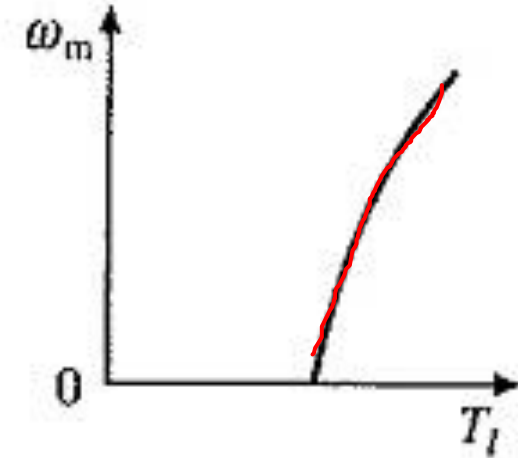

Fig. 3. High speed hoist.
- Windage is the opposition offered by air to the motion. A similar nature of the Classification of Load Torques can be expected when the motion is opposed by any other fluid, e.g. by water in centrifugal pumps and ship-propellers, giving the same characteristic as shown in Fig. 3.
- In a high-speed hoist, viscous friction, and windage also have appreciable magnitude, in addition to gravity, thus giving the speed-torque curve of Fig. 3.